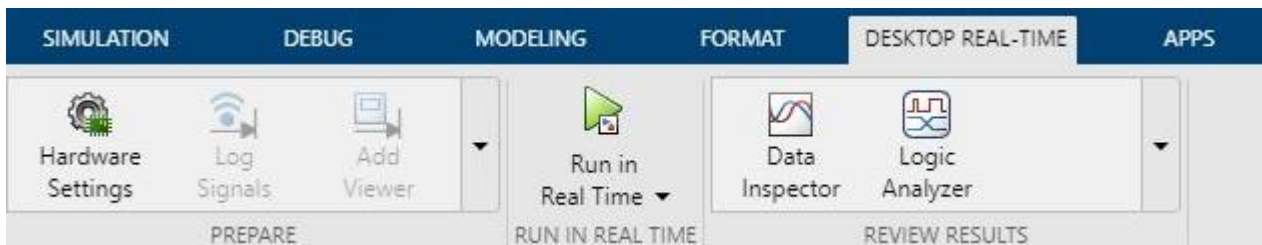

Fig. 3. Screenshot of Simulink file toolbar showing Run button.
As we mentioned in the **ELEC4632 Lab Guide**, the objective is to control the water level in one tank by regulating the pump attached to the same tank, while water can flow to the second tank and exits both tanks. In this case, input signal is the applied voltage to one pump (Pump#1), and output signal is the water level in the same tank (TANK#1). Wire connections should be already configured for TANK#1 and PUMP#1 (refer to Fig. 3 in **ELEC4632 Lab Guide**). However, in some W-T setups, wires may be connected to TANK#2 and PUMP#2 due to some technical issues on TANK#1 and PUMP#1.
- b. Run the model by clicking on **Run in Real Time** button found at the top of the Simulink model below the toolbar **after clicking on the tab “DESKTOP REAL-TIME”** as shown in Fig. 3.